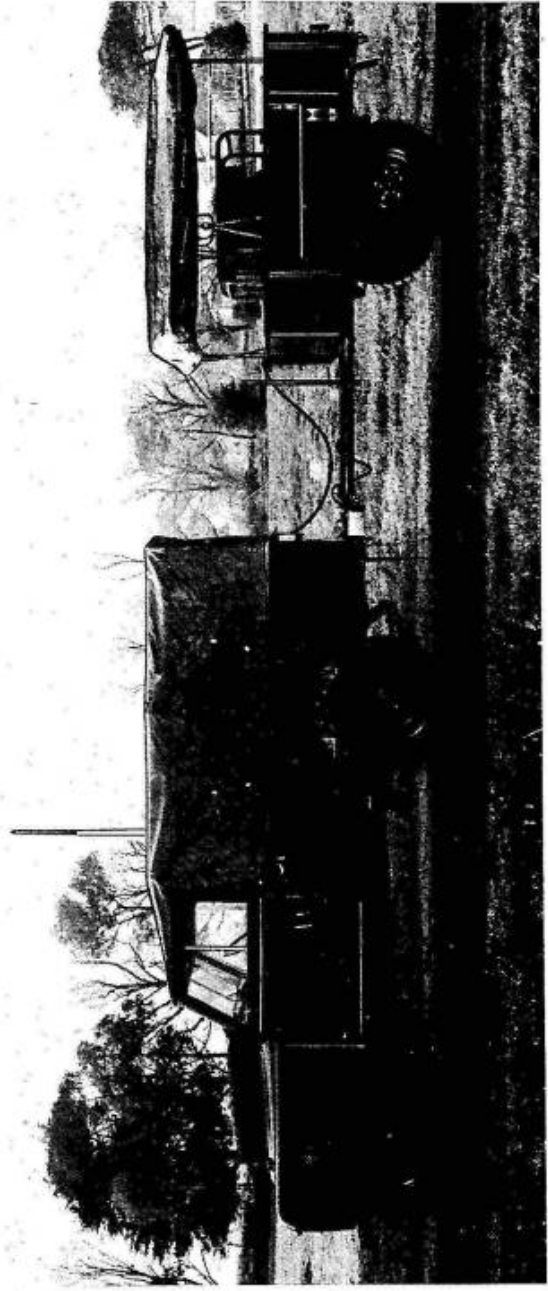

FIG 1 - THE COMPLETE STATION
1. The Command Radio Station AN/TRC-75 (Duplex) (Fig 1) is designed for use in the field by RA Sigs units. The station consists of a modified Radio Set AN/TRC-75 (Fig 10), a Duplex Radio Receiver 651E-1 (Fig 14), and the associated equipment detailed in Section 7. It is a self-contained installation and tows its own trailer mounted power supply.